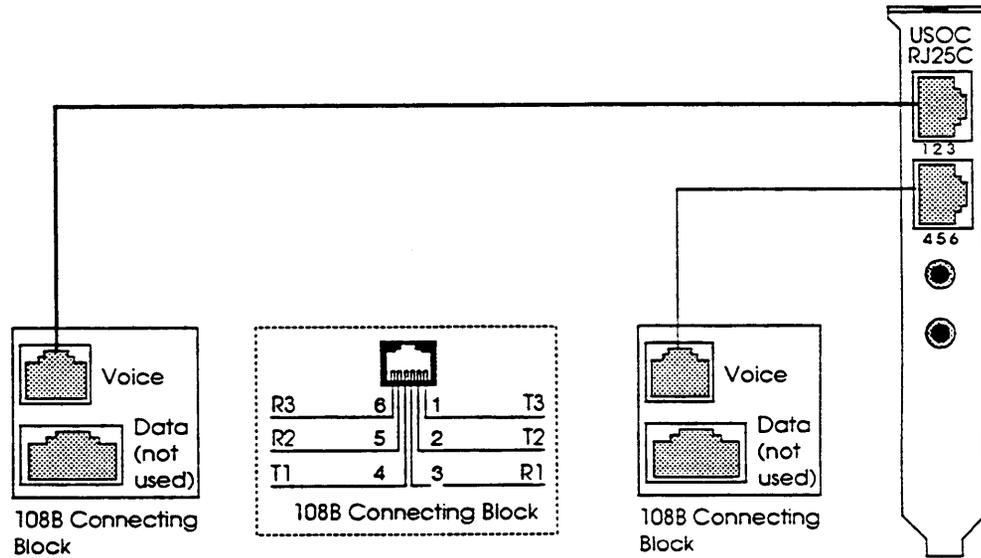

Figure 2-6. IVP6 Board with Direct Connection to 108B Connecting Block
1. Make sure that the line pairs were run together to type 108B connecting blocks or equivalent. (See Figure 2-6.)